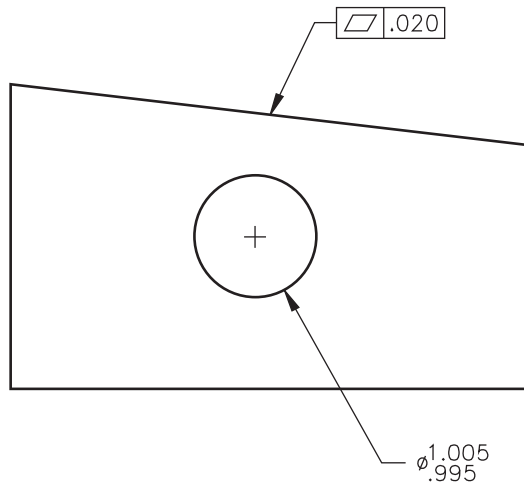

Fig. 30-8
- Pick a second point to position the dimension as shown in Fig. 30-8 on page 412.
Your drawing should now look similar to the one in Fig. 30-8.